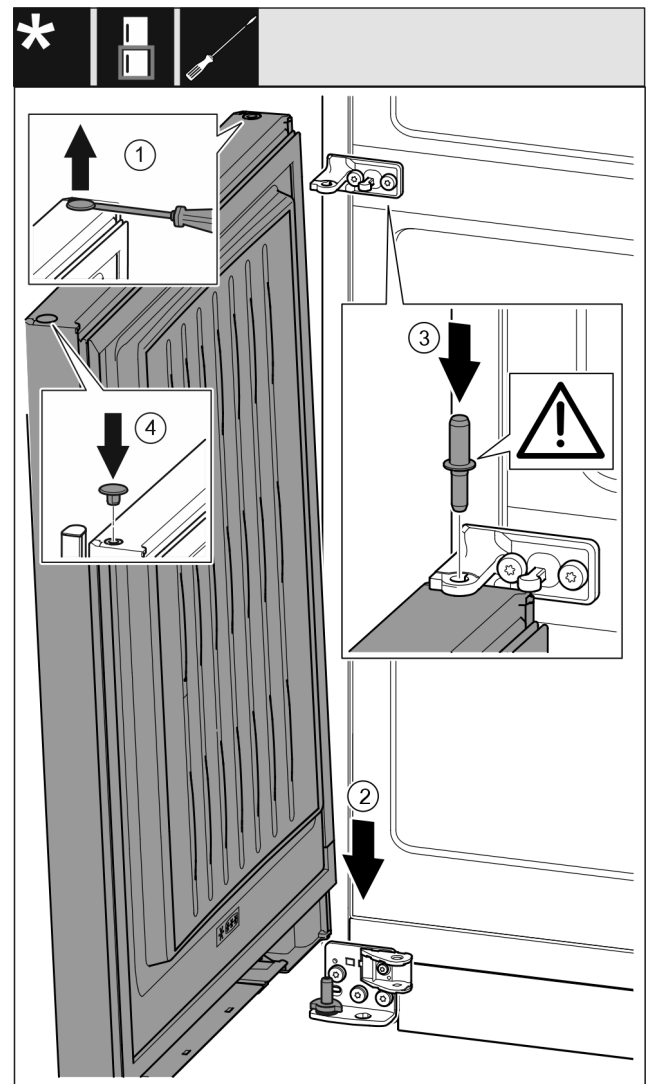

Fig. 31
- Use a slotted screwdriver to lift the plug Fig. 31 (1) carefully and pull it out.
- Lower the door Fig. 31 (2) onto the bottom bearing bolt.
- Insert the centre bearing bolt Fig. 31 (3) through the centre bearing block in the lower door. Ensure that the latching cam is pointing towards the rear.
- Re-insert the plug Fig. 31 (4) on the other door side.